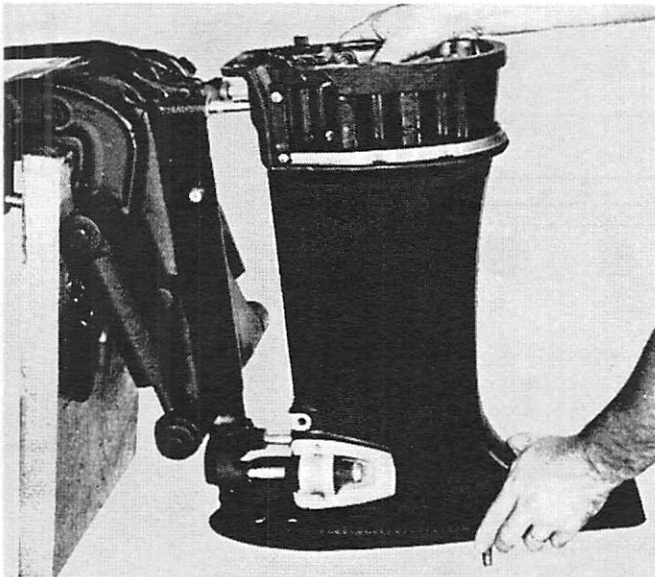

Figure 52. Removing Drive Shaft Housing
7. Remove drive shaft housing by pulling from top and bottom yokes. (Figure 52)
4. With upper and lower yoke bracket in position, place drive shaft housing onto yoke brackets. (Figure 52)